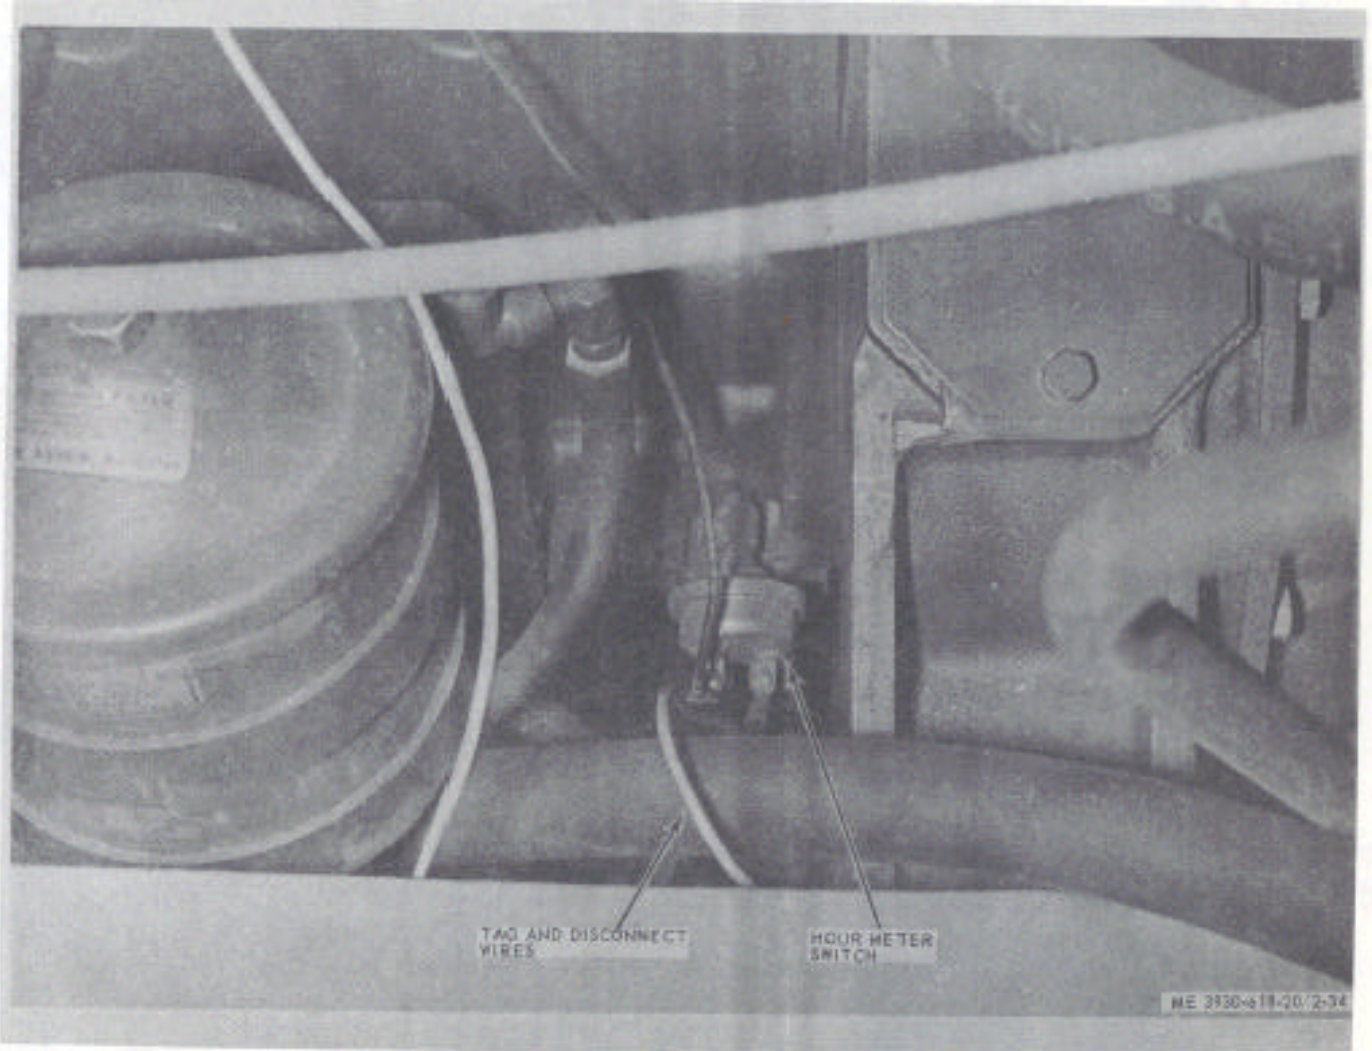

Figure 2-34. Hour meter switch, installed on engine.
*c. Removal.* Refer to figure 2-34 and remove the hour meter switch as follows:
- (1) Tag and disconnect the wiring.
- (2) Remove the hour meter switch.